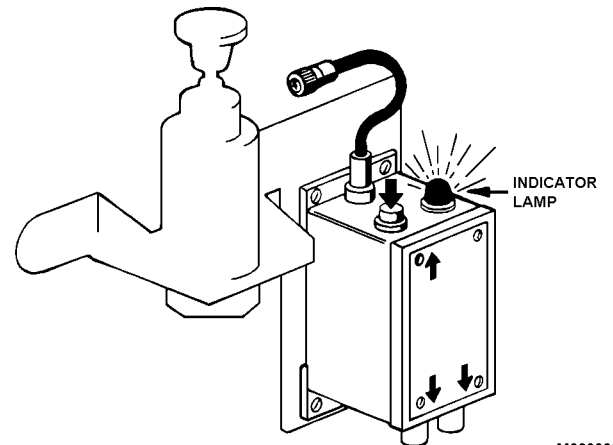

FIGURE 2-12. POWER CHECK
- a. Depress the button on top of the control module and note green indicator light (Figure 2-12). With button, depressed, light should